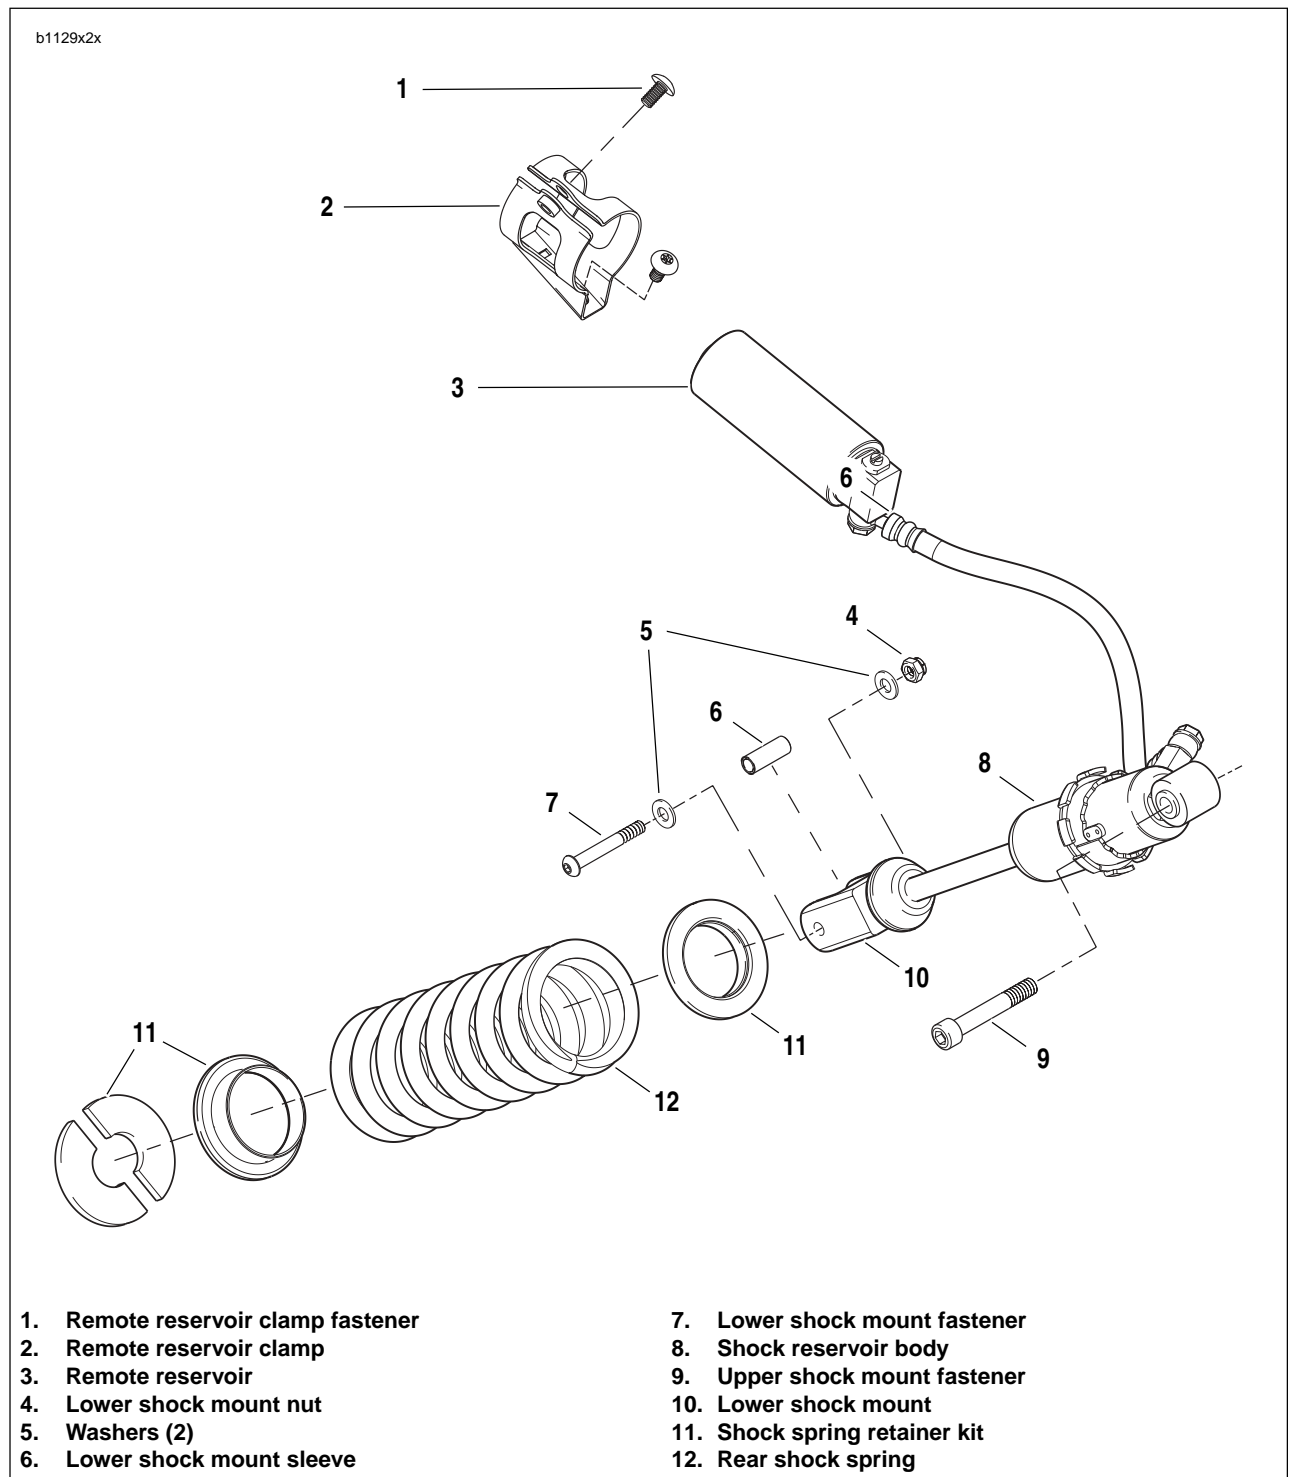

Figure 2-86. Rear Shock Absorber Assembly
2. Install pivot shaft (10) with a special 7/8 in. hex tool located in tool kit, ANTI-SEIZE and tighten to 24-26 ft-lbs (32-35 Nm).
3. Tighten pivot shaft pinch fastener (7) to 17-19 ft-lbs (23-26 Nm).
4. See Figure 2-86. Install lower shock absorber mounting fastener (7) and spacer from shock absorber and swingarm and tighten to 15-17 ft-lbs (20.3-23 Nm).
1. See Figure 2-86. Install rear shock assembly in upper shock mount
2. Install fastener (9) and tighten to 49-51 ft-lbs (66-69 Nm).
3. Install lower shock mount with fasteners (4, 5, 7) and lower shock mount sleeve (6) and tighten to 15-17 ft-lbs (20.3-23 Nm).